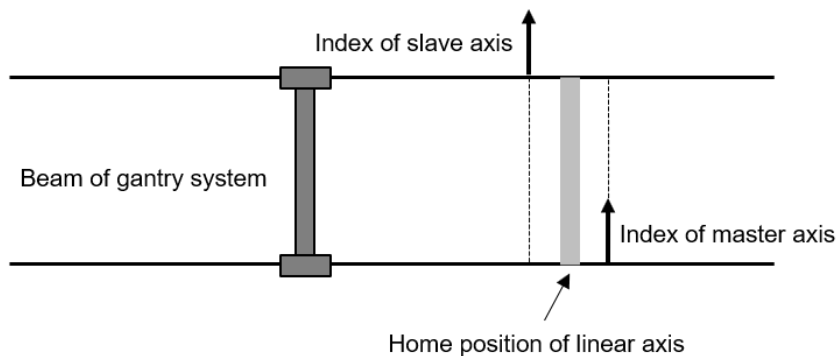

Figure 6.8.1
2. On gantry mode, Touch Probe value is not the index position of any single axis. Instead, it is the center point of both axes' index positions, as figure 6.8.1 shows.